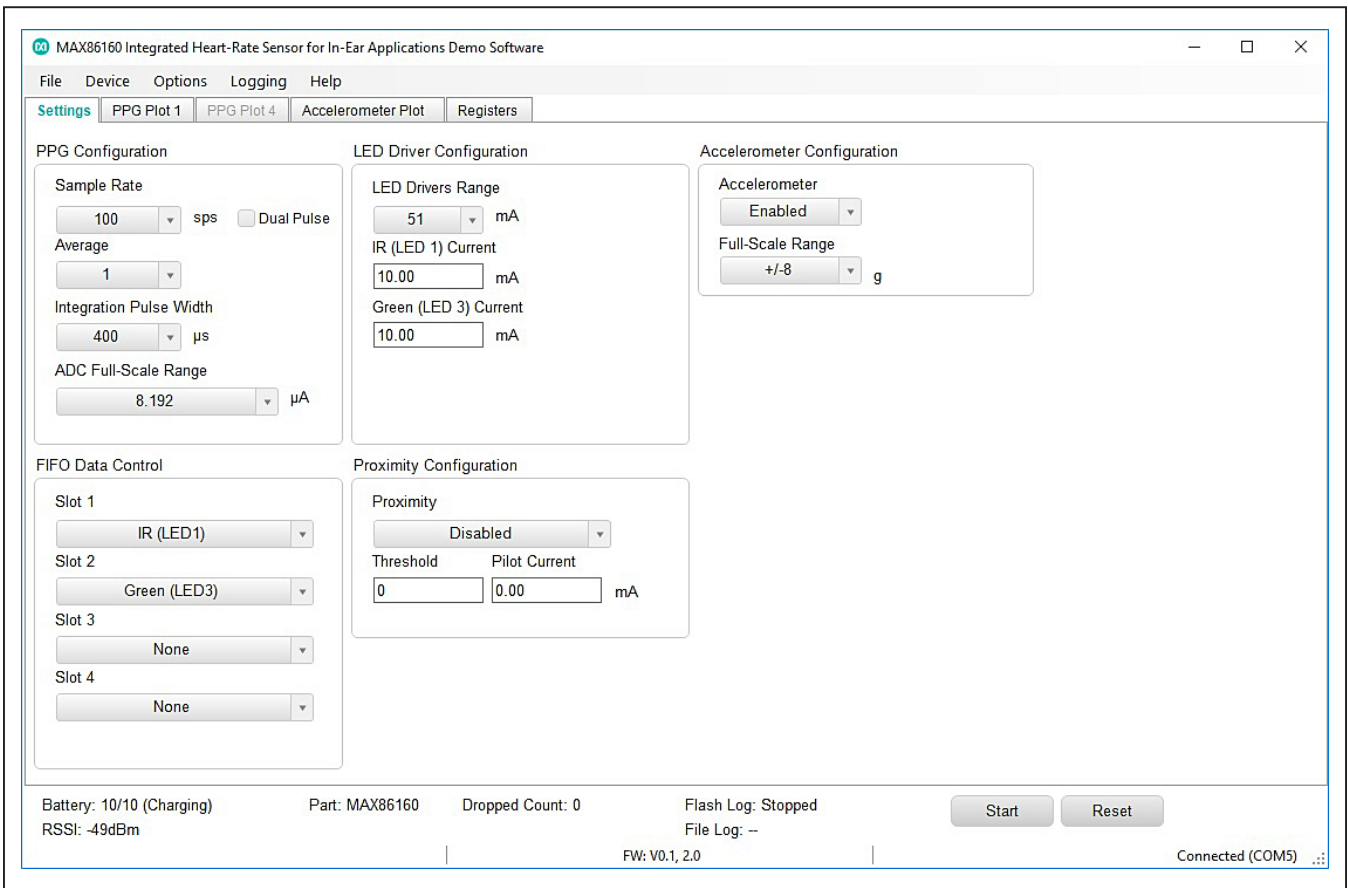

Figure 11. MAX86160 EVSYS GUI
- 8) The GUI will then be launched as shown in Figure 11.